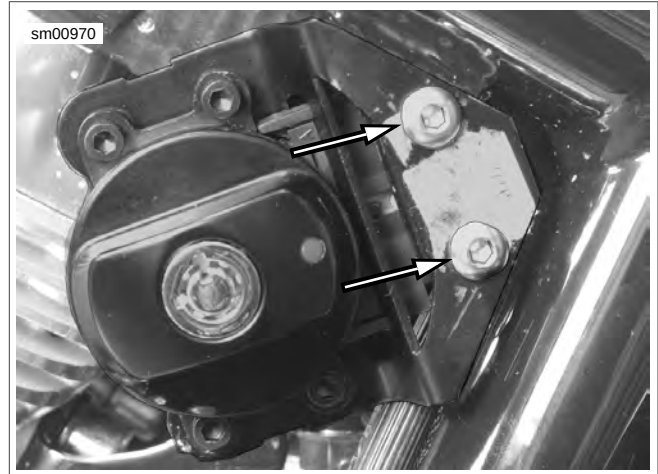

Figure 7-14. Ignition Switch Fasteners
3. See Figure 7-14. Remove fasteners and remove ignition switch from frame.
6. See Figure 7-14. Install ignition switch to frame. Secure with fasteners. Tighten to 4-7 Nm (35-62 in-lbs).